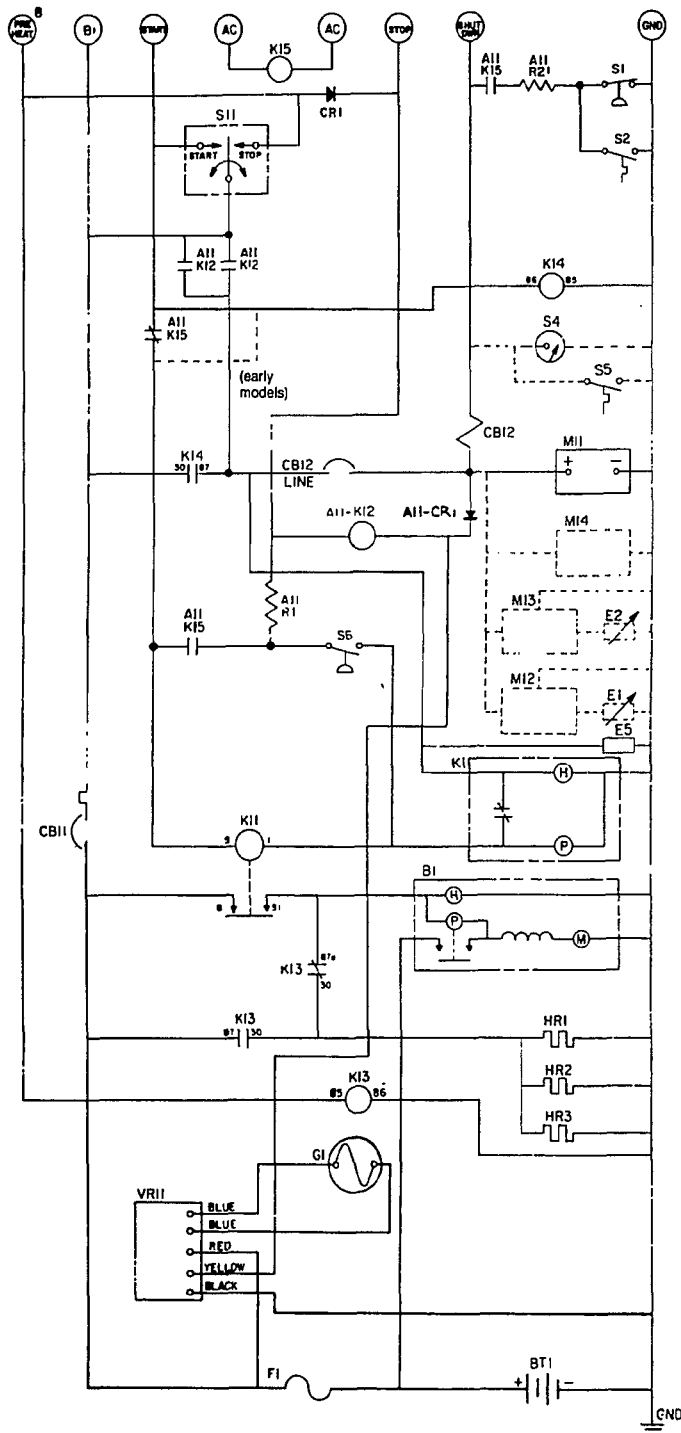

FIGURE 2-4. MDKC/MDKD CONTROL SCHEMATIC
The following section covers the control operation. The schematic diagram shown in Figure 2-4 can be used to help follow the circuit description. Always refer to the specific wiring diagram that corresponds to the model and specification number of the generator set when troubleshooting. Relay contact references normally open (NO) and normally closed (NC) refer to the position of the contacts with the unit at rest (not energized).
Figure 2-4 shows a typical schematic for the circuits described in the following Starting, Start-Disconnect, and Stopping sequences. Relay contact references normally open (NO) and normally closed (NC) refer to position of contacts with the unit at rest (not energized).
**Emergency Shutdown:** Fault breaker CB12 opens to stop the engine any time a fault sensor closes the circuit to ground. The fault sensors, shown in Figure 2-4, are: